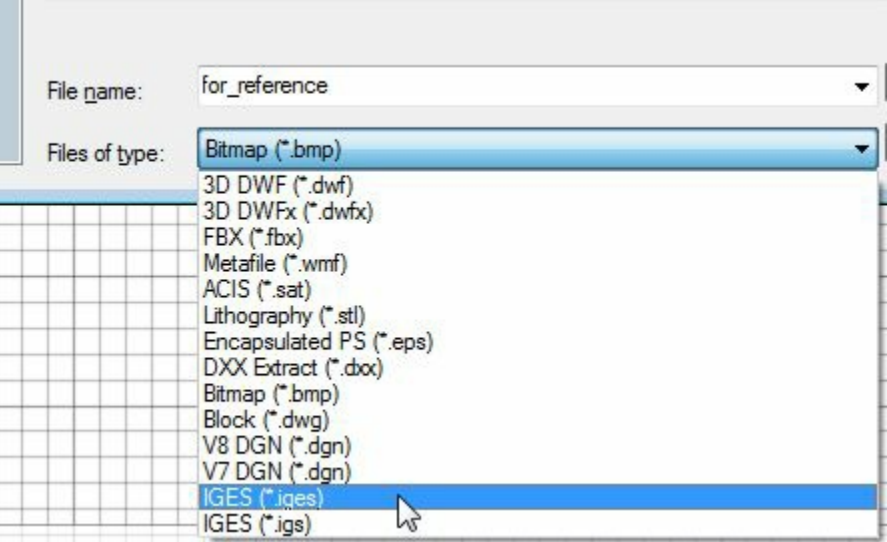

Figure-37. Formats for export
- Specify the desired name in the File name edit box and click on the Files of type drop-down. The list of formats will be displayed as shown in Figure-37.